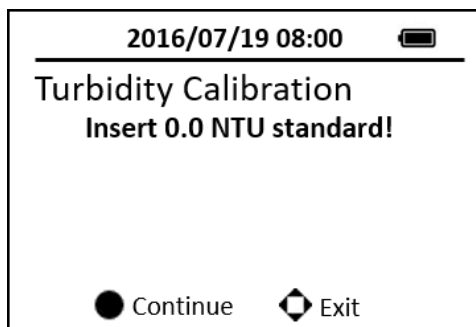

Figure 20. Turbidity Calibration-1
4. Press the **CAL** on the main page, then choose the Turbidity calibration and press the **OK** button to launch the Turbidity calibration page. (Figure 20)